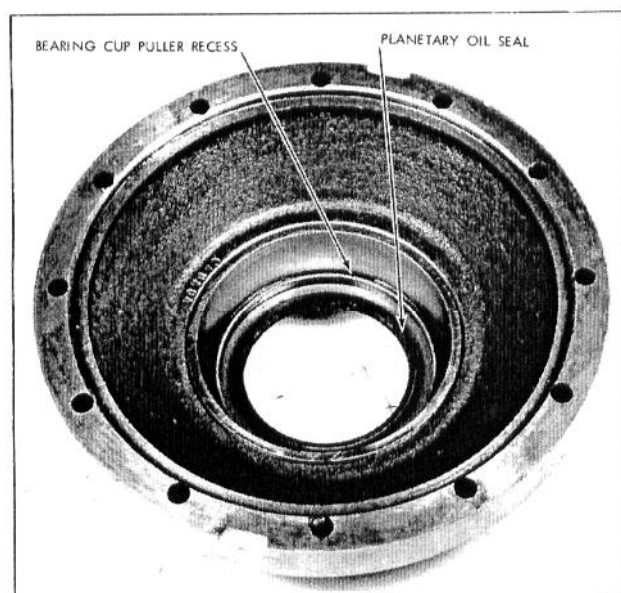

Fig. 48 - Drive Cover with Oil Seal and Bearing Cup in Position
11. Remove the outer planetary bearing cup with a suitable puller. Refer to Fig. 48.